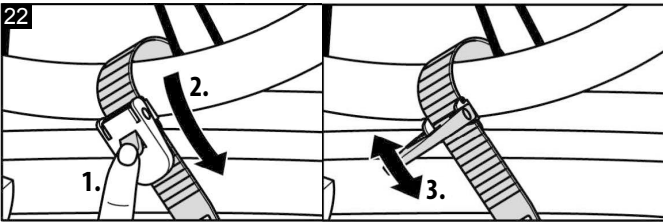

Figure 22: Tension strap Rim
Place the tension straps of the wheel holders around the rim of the wheel (1) and insert the tension strap into the lock. Pull the tension strap tight using the lever (2), fig. 22.